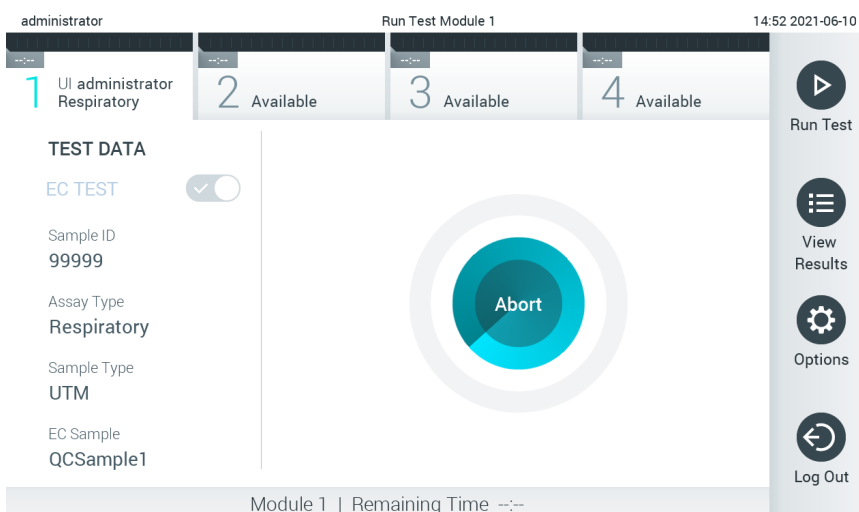

Figure 95. Test execution and remaining run time display.
10. Upon detecting the QIAstat-Dx assay cartridge, the QIAstat-Dx Analyzer 1.0 will automatically close the lid of the cartridge entrance port and start the test run. No further action from the operator is required. While the test is running, the remaining run time is displayed on the touchscreen (Figure 95).